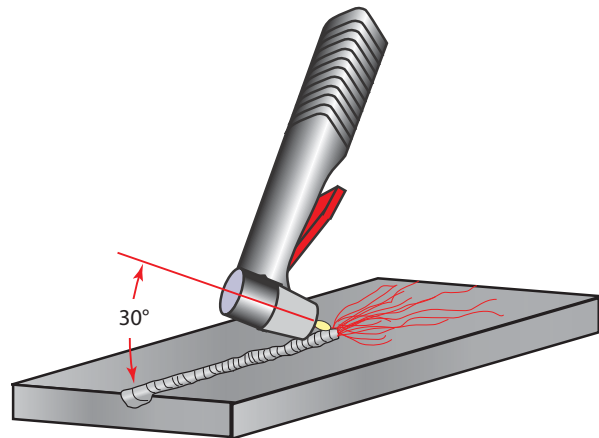

FIGURE 22-50 Plasma arc gouging a U-groove in a plate. © Cengage Learning 2012
Plasma arc gouging is a recent introduction to the PAC processes. The process is similar to that of air carbon arc gouging in that a U-groove can be cut into the metal's surface. The removal of metal along a joint before the metal is welded or the removal of a defect for repairing can easily be done using this variation of PAC, Figure 22-50. An advantage of using PA cutting to remove a weld is that any slag trapped in the weld will not affect the PAC gouging process.
- Follow the setup and starting of the plasma procedures as outlined in Project 22-1 but hold the torch at a 30° angle pointed in the direction you will be making the groove, Figure 22-50.